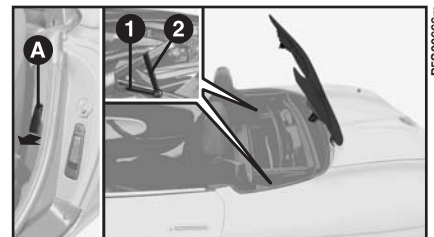

fig. 58
2) Make sure that the boot is closed properly, then lift lever **A**-**fig. 58** (the lever nearest the seat) to release the hood housing cover. A beep, however, will inform you if the boot has not been closed properly.
4) Turn the hood fastener from position **2-fig. 58** to position **1** so that it rests in the appropriate recess. Do the same operation on both sides. Working from outside the car, lift hood with one hand until you can grip the rear part of the hood with the other hand. Keep the hood folded, and pull it right to the front of the car so you can close the hood compartment cover, **fig. 59**. Make sure the catch on the cover has caught properly.